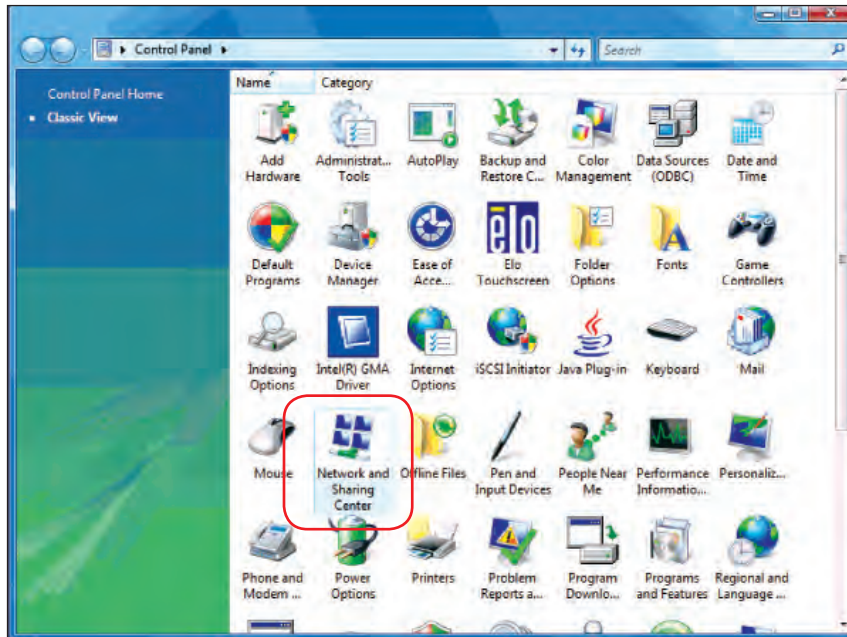

Figure B-4. Selecting Network and Sharing Center.
2. Click on **Network and Sharing Center** (Figure B-4).